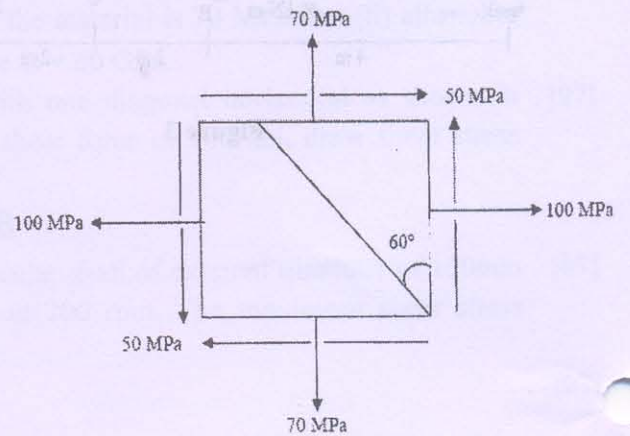

Figure 12
- maximum shear stress and its location, for the element shown in **Figure 12**.
- element shown in **Figure 12**.